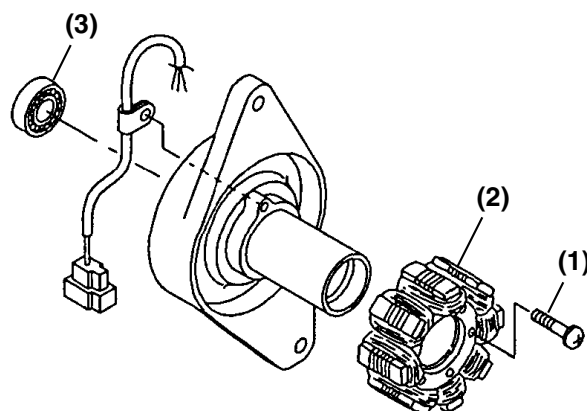

Figure 12-26
4. Remove the screws (**Figure 12-26, (1)**) and the stator assembly (**Figure 12-26, (2)**).
5. Remove the rear bearing (**Figure 12-26, (3)**).